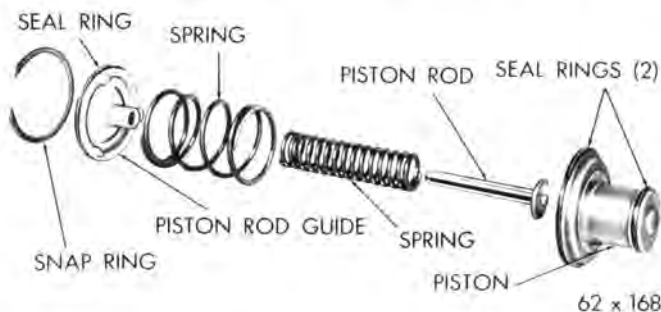

Fig. 110—Kickdown Servo-Disassembled
Figure 110 shows a disassembled view of the kickdown servo assembly.
NOTE: The large outer spring shown in Figure 110 is not used in the A-904-G and A-904-LA transmissions. Also, it is not used in maximum performance vehicles with the A-727-A and B transmissions.
(1) Carefully push the servo piston into the case bore. Install the piston rod, the two springs and the guide (Fig. 110). **The A-904-G and A-904-LA transmissions use one small spring only. Also, one small spring only is used in the maximum performance vehicles with A-727-A and B transmissions.**
(2) Compress the kickdown servo springs by using engine valve spring compressor Tool C-3422, then install the snap ring.